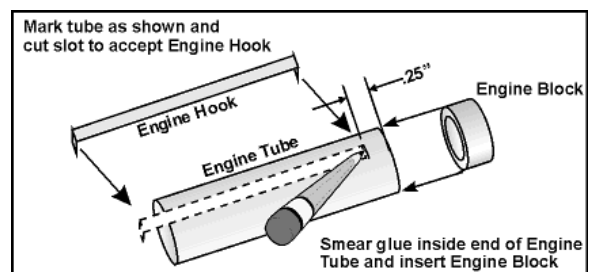

Figure 1
1. Mark the **Engine Tube** 1/4" from one end. Using a hobby knife, make a small slit at this mark. Referring to **Figure 1**, insert the **Engine Hook** into this slit as shown. Next, place a bead of white glue on the inside of the Engine Tube, on the same end as the slit, and insert the **Engine Block** until it touches the Engine Hook. The end of the Engine Block should be flush with the end of the Engine Tube.